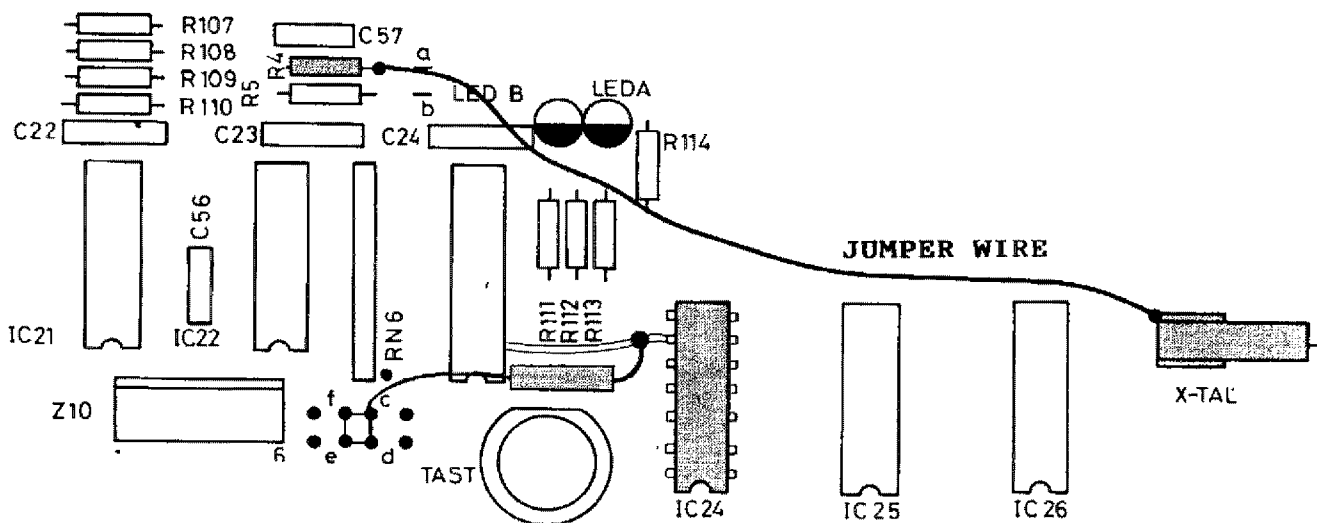

Figure 4, EEPROM Erase Program Points
- B. Locate Resistor R-4, near the two test points marked -a- at the left end of the exposure microprocessor board (See Figure 4).